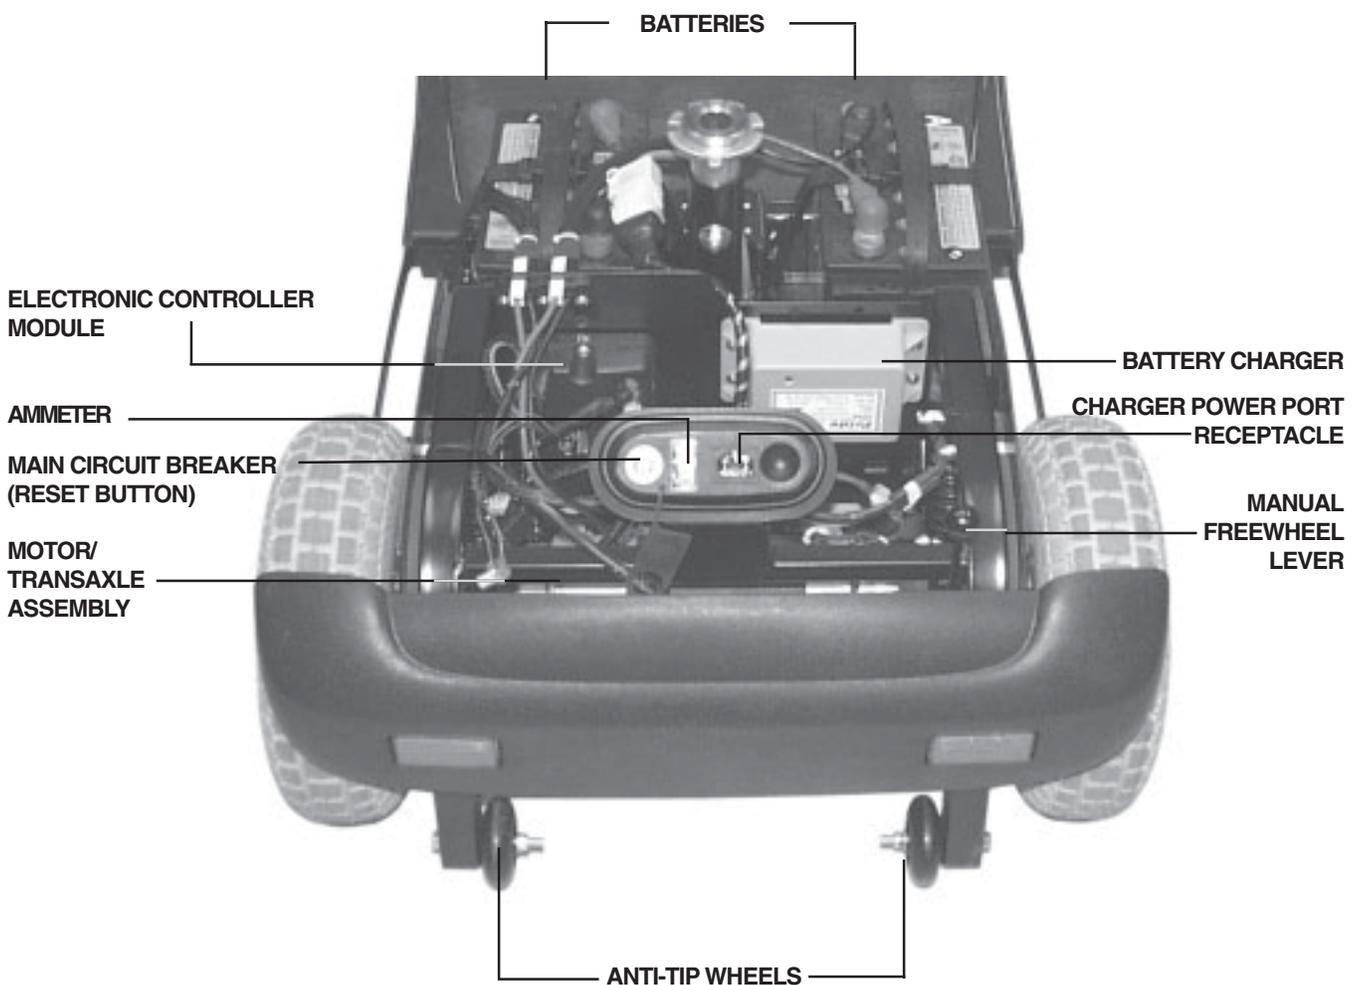

Figure 9. Rear Section
The batteries, electronic controller module, motor/transaxle assembly, manual freewheel lever, the anti-tip wheels, the main circuit breaker, and the fuses are located on the rear section of your scooter. See figure 9.
The anti-tip wheels are an integral and important safety feature designed to help prevent your scooter from tipping backwards on an incline. They are bolted to the frame at the rearmost part of your scooter. See figure 9.
- The main circuit breaker reset button is located next to the ammeter. See figure 9.